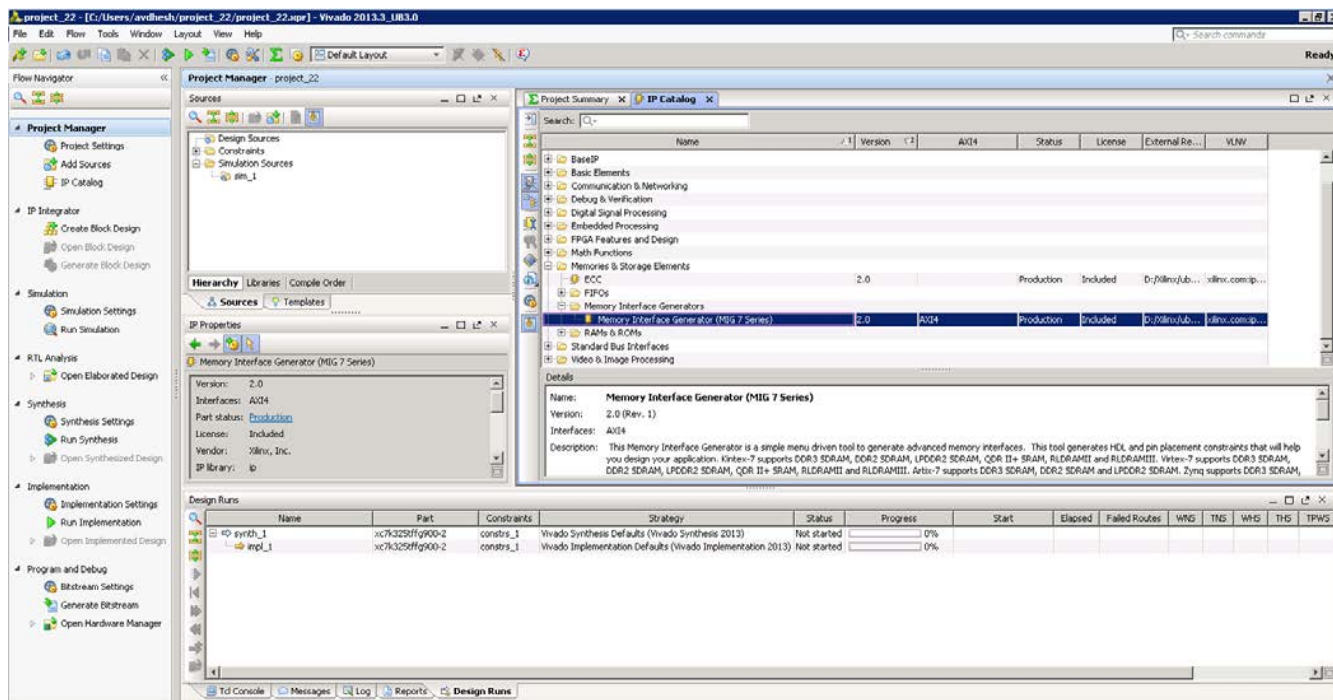

Figure 1-12: IP Catalog Window – Memory Interface Generator
11. Click **IP Catalog** on the Project Manager window to open the IP catalog window. The Vivado IP catalog window appears on the right side panel (see Figure 1-12, highlighted in a red circle).
12. The MIG tool exists in the **Memories & Storage Elements > Memory Interface Generators** section of the IP catalog window (Figure 1-12) or you can search from the Search tool bar for the string "MIG."